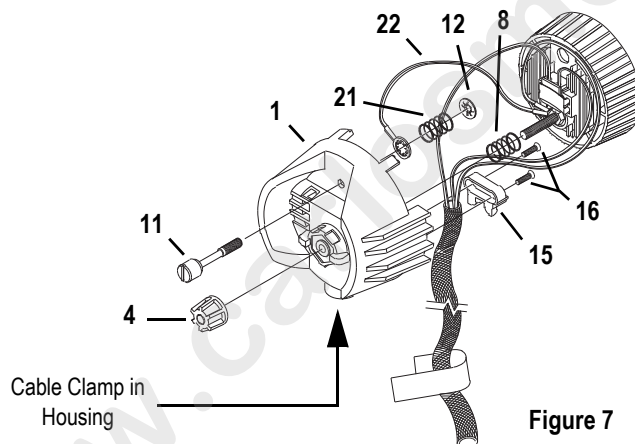

Figure 7
- Step 19: Insert the knurled head screw (11) through the housing socket casting (1) as shown in Figure 7.
- Step 20: Install the shorter green ground wire (22) onto the screw. The prongs on the crimped connector should be toward the casting.
- Step 21: Install the ground spring (21) onto the screw and secure it with the Southco flat retaining ring (12). Install the Southco ring with its prongs away from the casting.